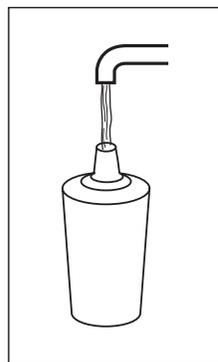

Fig. 20
- Fill the filter with water (Fig.20)